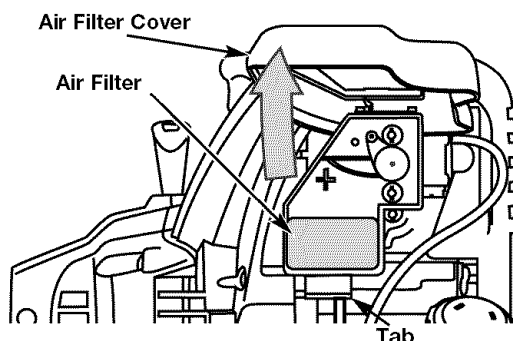

Fig. 45
1. Open the air filter cover. Push the tab on the under side of the cover inward. Then pull the air filter cover out and up. (Fig. 45).
2. Remove the air filter (Fig. 45).
6. Replace the filter (Fig. 45).